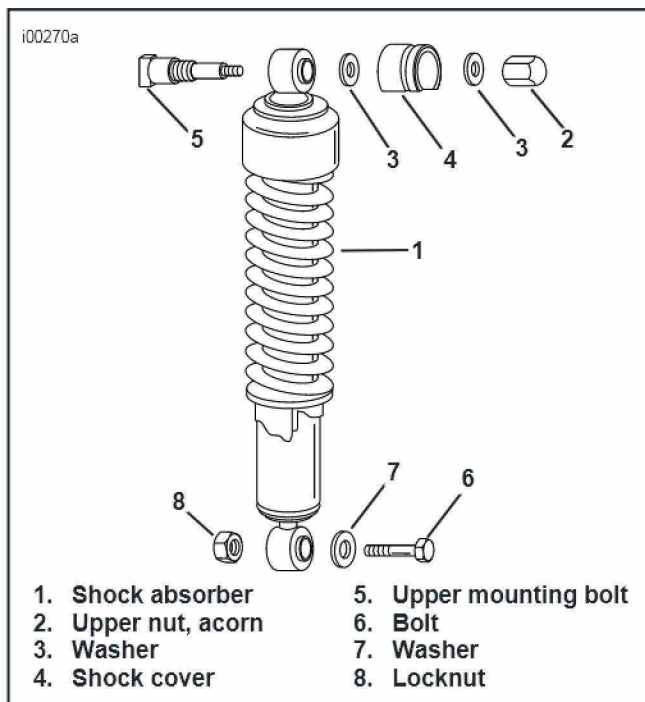

Figure 1. Shock Absorber Removal
4. See Figure 1. With rear fender and frame securely supported, remove left and right shocks by removing upper nut (2), washer(s) (3) and shock cover (4). Remove bolt (6), washer (7) and locknut (8) at lower shock mount. Remove shock.